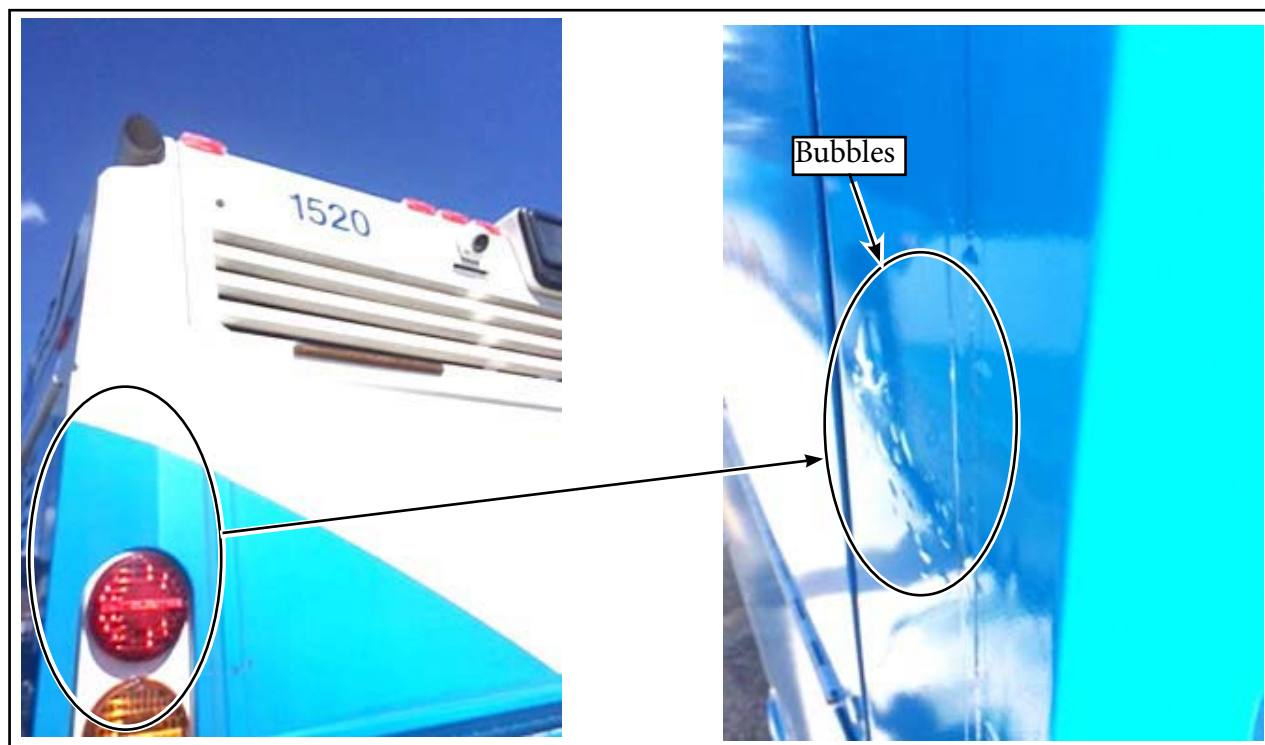

Figure 1 - Inspect the graphics for bubbles
- 1.1. Inspect the graphics for bubbles (see Figure 1).